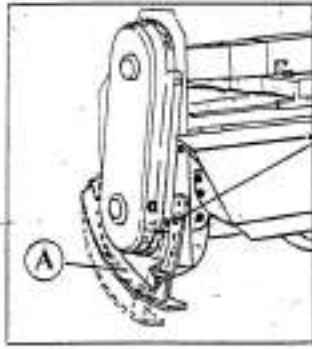
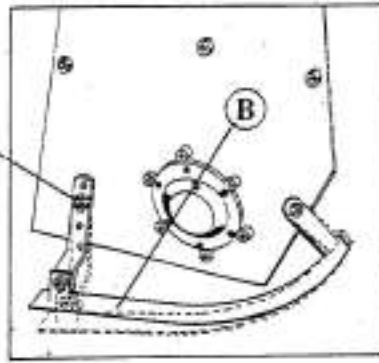

Figure 14. Setting with left slipper
Figure 15. Setting with right slipper
The left and right slippers are used to adjust the working depth (see Figures 14 and 15).
Release the adjusting screw (Figures 14 and 15, pos. 1), raise or lower the slippers (A) and (B) to the desired height, and then retighten the adjusting screw.
Then select a lower gear, drive the tractor slowly forward while lowering the implement to the working position at the same time, using the hydraulic control lever. The tractor drives like that for a few meters and then stops it. Immediately switch off the PTO shaft. Look at the quality of the work of the tool and determine whether the desired depth of work has been achieved. If you are not satisfied, adjust the appropriate working depth with the left and right slippers (see Figure 14 and Figure 15).